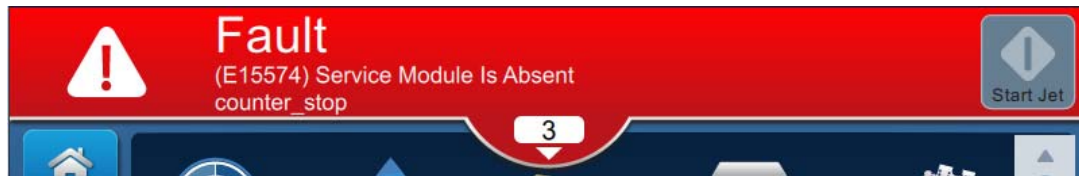

Figure 8-6: Fault Selection
1. Touch the  on the status bar to view the list of uncleared faults (Figure 8-6).